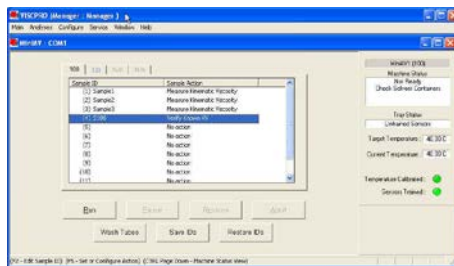

Figure 7: Sample Input Window
8. Select the desired **Group Id** and Click **OK** to display the **Sample Input View** as shown in Figure 7. Then click the tray corresponding to the desired miniAV.